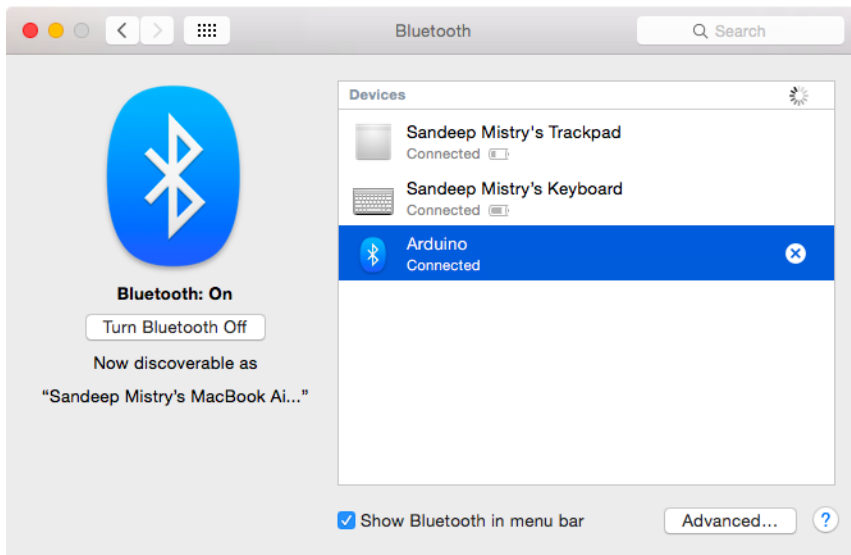

Figure A-10 Click the X next to the device you want to unpair
2. Click on the Arduino device (Figure A-10).